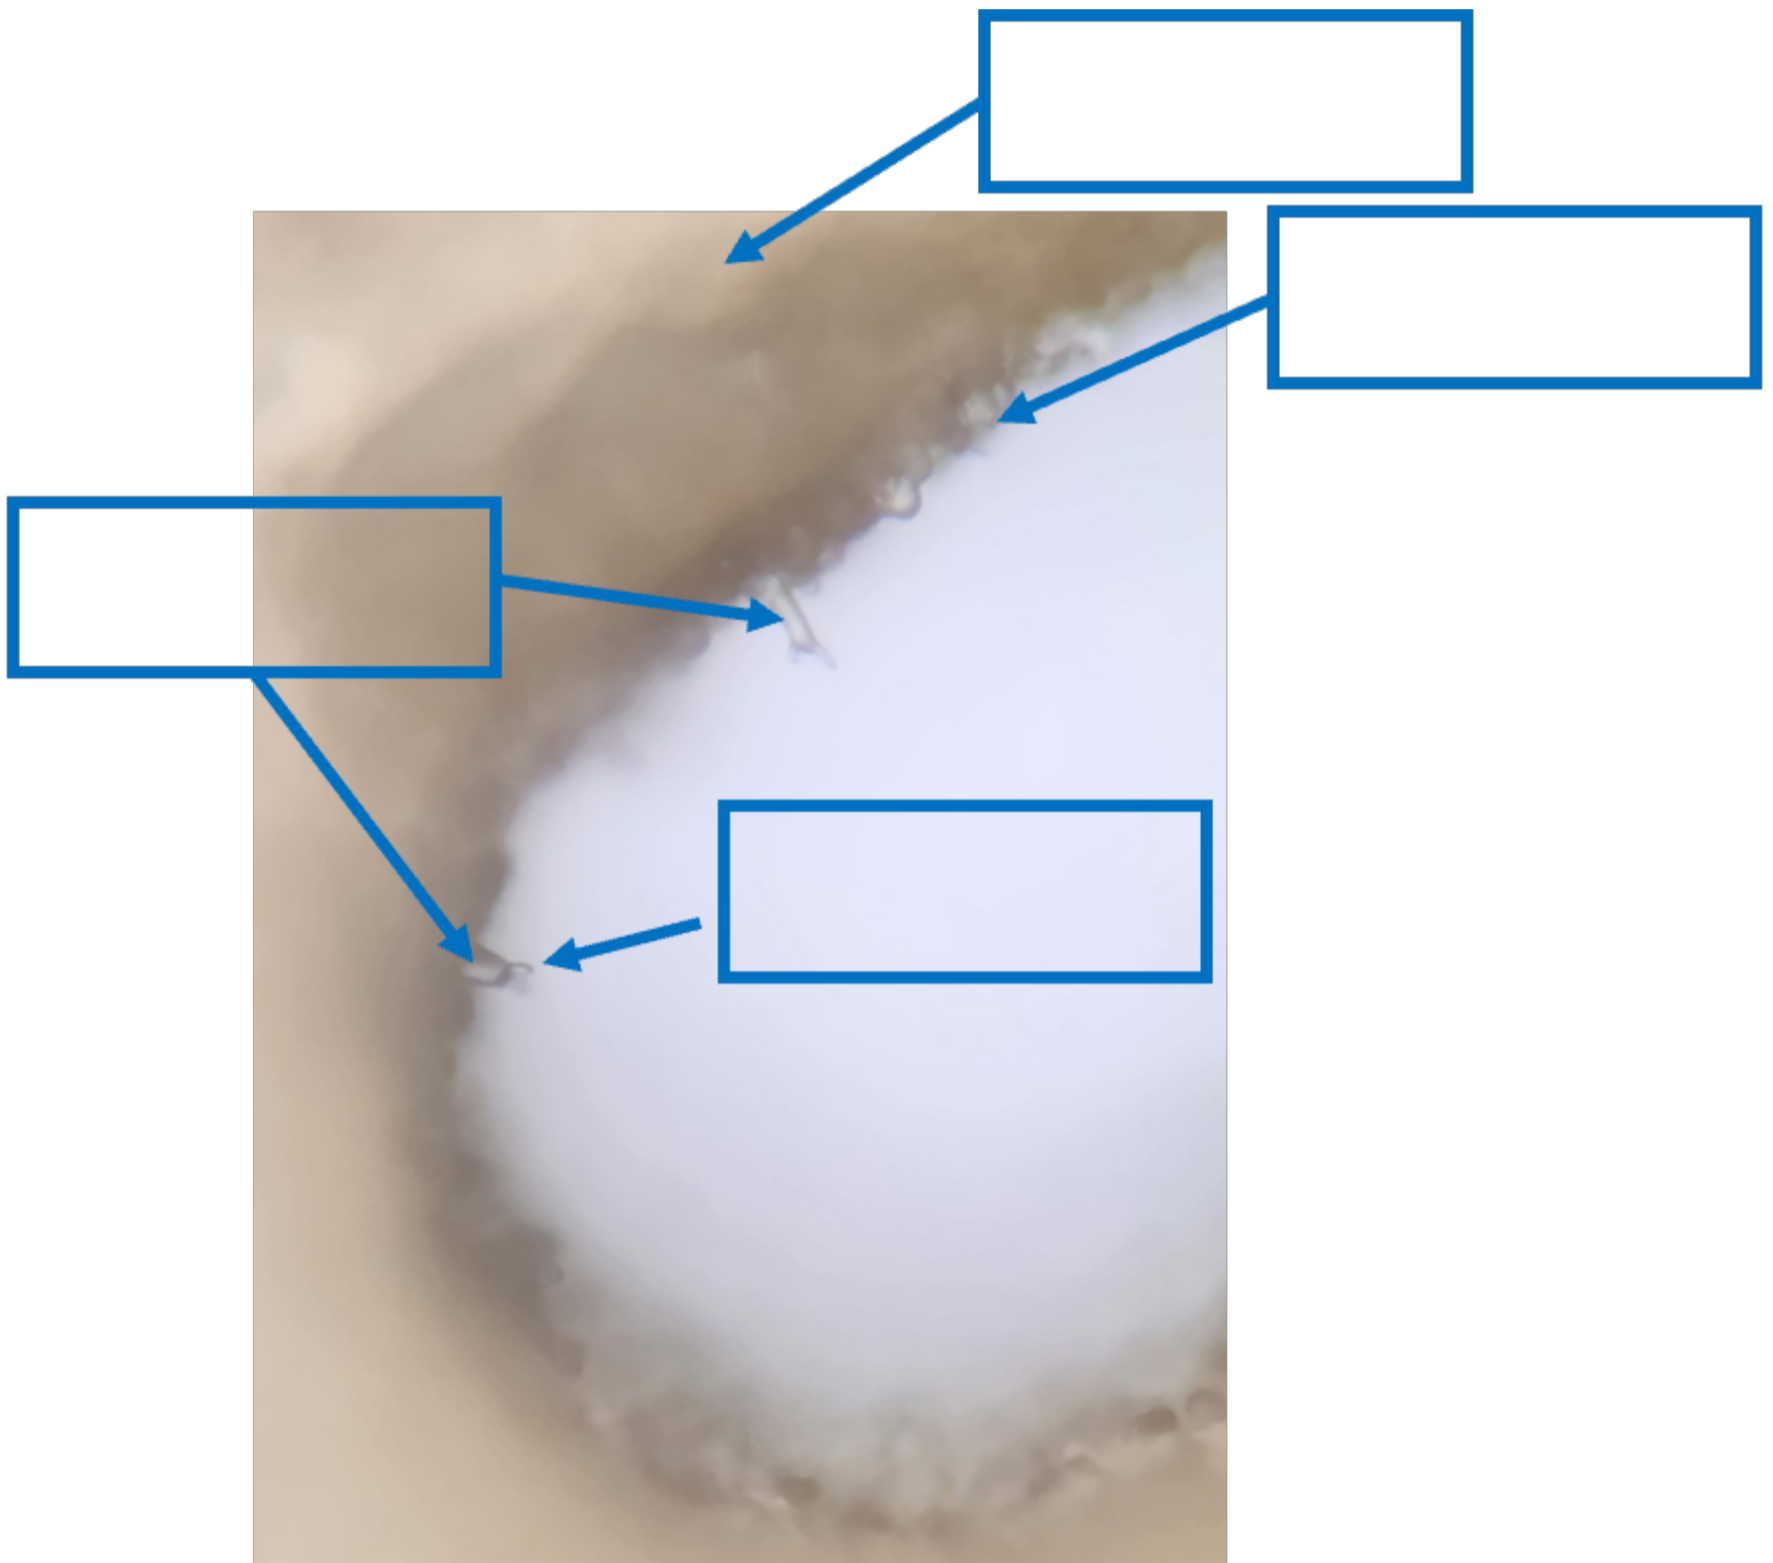

Figure 5.7 Image by Ruke C Haas. Modified by Author.
4. Identify the following structures (bullet points) in Figure 5.7: